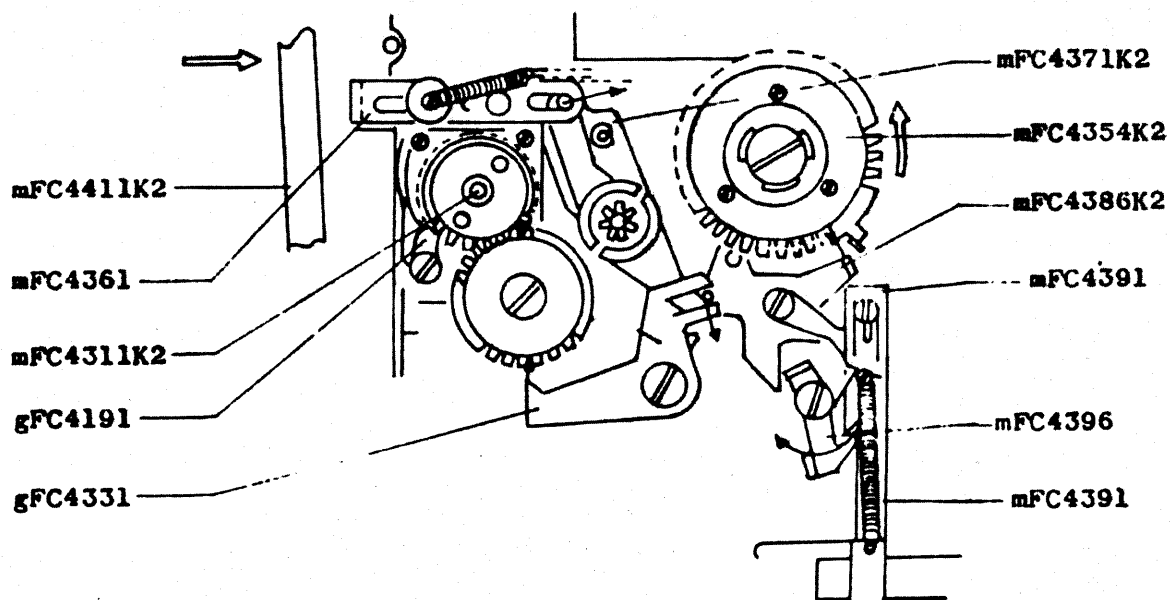

Fig. 10
(3).4 Do the lever counter reset mFC4361, the lever counter reset assembly mFC4371K2, the pawl gFC4331, the wind stop lever assembly mFC4386K2, and the latch mFC4396 all operate properly when the back cover mFC4411K2 is closed (when it is pressed in the arrow direction shown)? Does the bent place of the wind stop lever assembly mFC4386K2 meet the cut-off point of the dividing disk when the dividing disk mFC4354K2 is turned counterclockwise? At the same time; does the tip of the pawl gFC4331 jump into the gear, and will the tip of the latch mFC4396 slip out from the lever counter reset assembly mFC4391, and does it go back to its original position (see Fig. 10) when the back cover is opened?